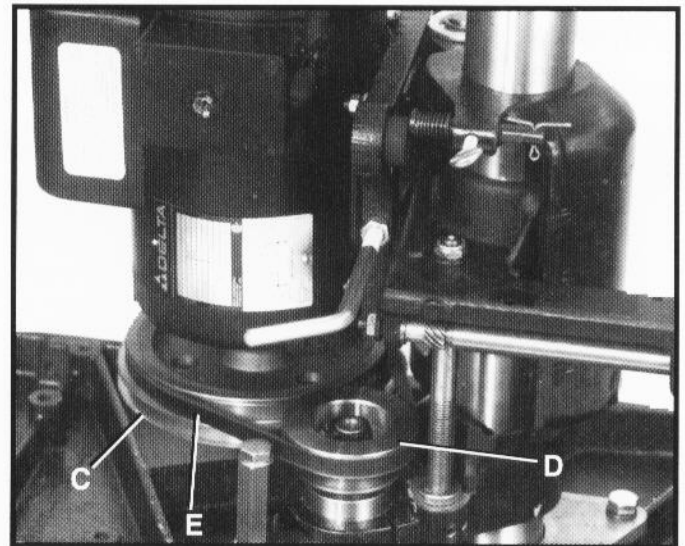

Fig. 3
5. Assemble V-belt (E) Fig. 3, to the motor pulley (C) and spindle pulley (D).